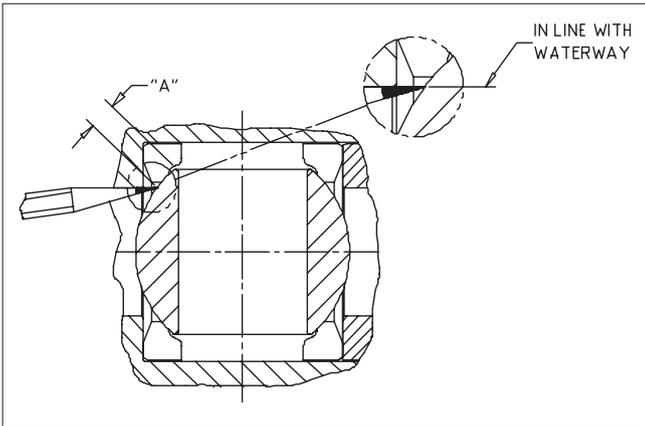

Figure 6 Correct Ball Position
**Valve Close Position:** With the valve in the closed position (actuator is against the "CLOSE" travel stop), make a pencil mark on the ball at the 9:00 o'clock and 3:00 o'clock locations as shown in (Figure 6). Open the valve part way, and measure dimension "A". This measurement should deviate no more than  $\pm 1/32$  inch ( $\pm 0.8$  mm) from the value given in (Table 8) for all valves.